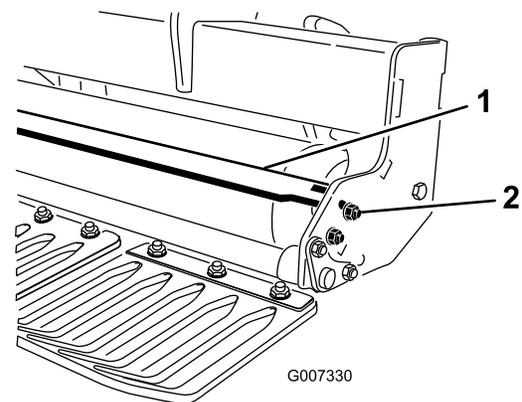

Figure 16
1. Loosen the fasteners securing each end of scraper to roller scraper tab (Figure 16).